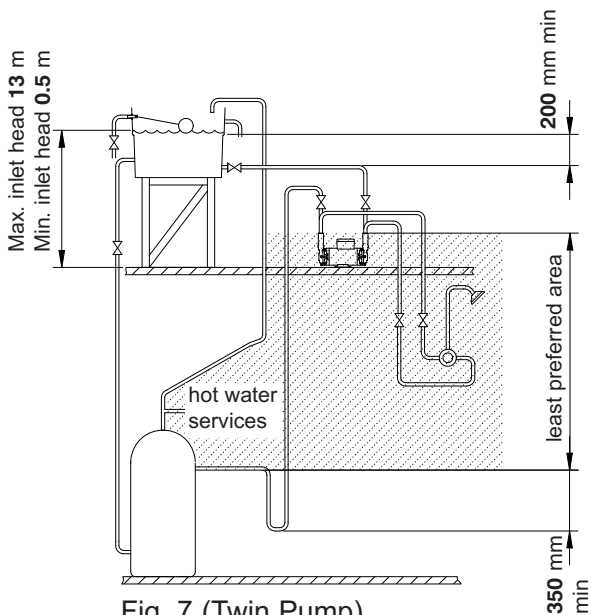
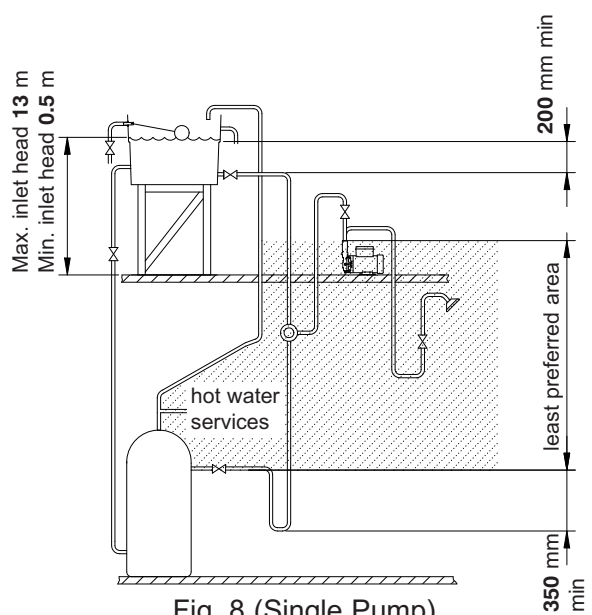

Fig. 7 (Twin Pump)
Fig. 8 (Single Pump)
- 1) A "U" bend or downward loop in the supply pipe to the pump of 350 mm depth before rising to the pump, should ensure the cylinder vents its air up the expansion pipe not up the pump feed (Fig. 7 for Twins and Fig. 8 for Singles).